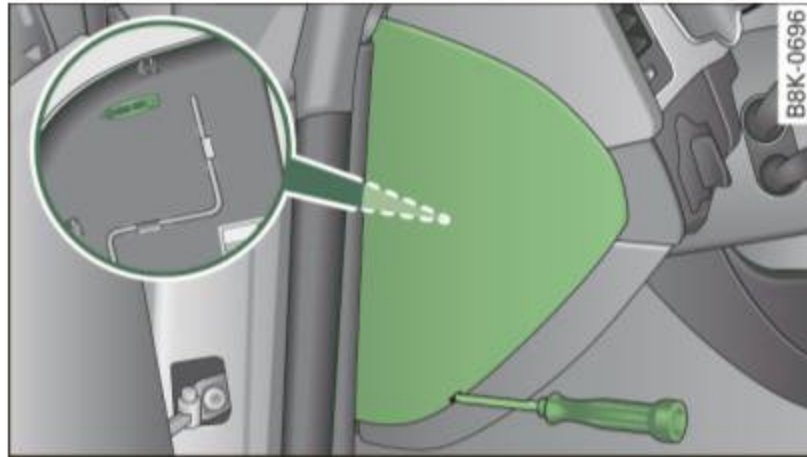

Fig. 235 Left cockpit:
- Remove the clamp from the rear side of the fuse cover ⇒ fig. 235.